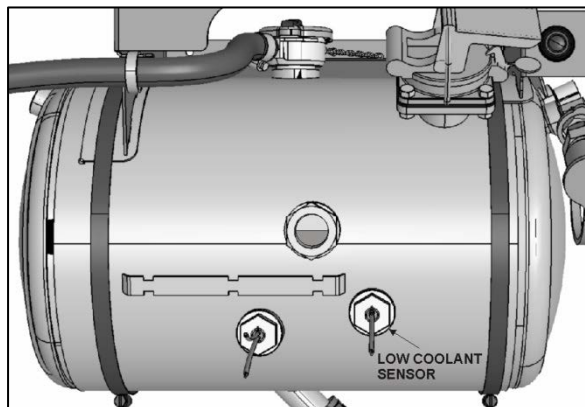

Figure 3
3. Disconnect the low coolant sensor (Figure 3).